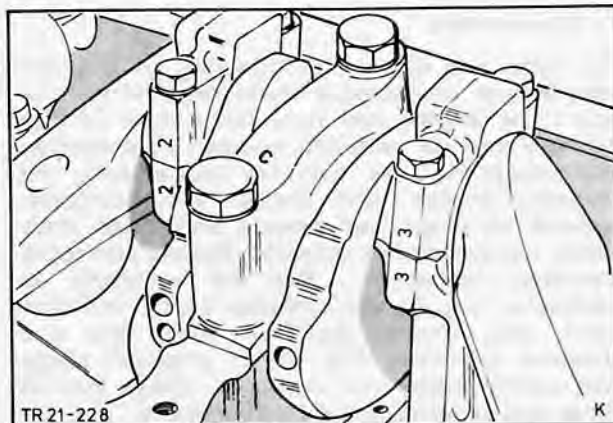

Fig. 43. Markings of big end bearing caps
27. Check markings of big end and main bearing caps, Fig. 43, for subsequent reassembly.